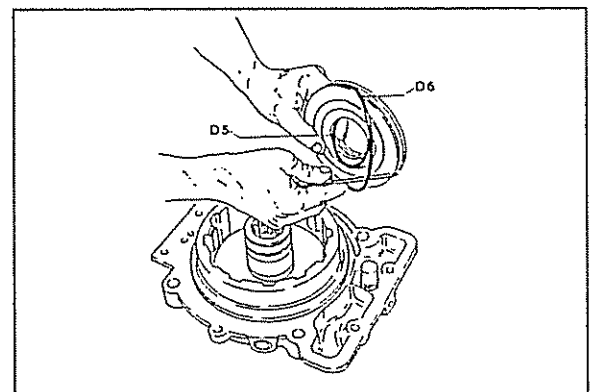

Figure B9
2.15 Remove the piston oil sealing rings. See Figure B9.